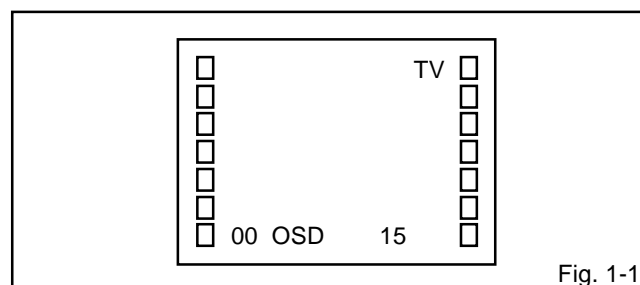

Fig. 1-1
Press the VOL. DOWN button on the set and the Channel button **(9)** on the remote control for more than 1 second to appear the adjustment mode on the screen as shown in **Fig. 1-1**.
4. Activate the adjustment mode display of **Fig. 1-1** and press the channel button **(02)** on the remote control to select "RF.AGC".
3. Activate the adjustment mode display of **Fig. 1-1** and press the channel button **(01)** on the remote control to select "CUT OFF".
4. Activate the adjustment mode display of **Fig. 1-1** and press the channel button **(10)** on the remote control to select "R. BIAS".
4. Activate the adjustment mode display of **Fig. 1-1** and press the channel button **(03)** on the remote control to select "V.VCO".